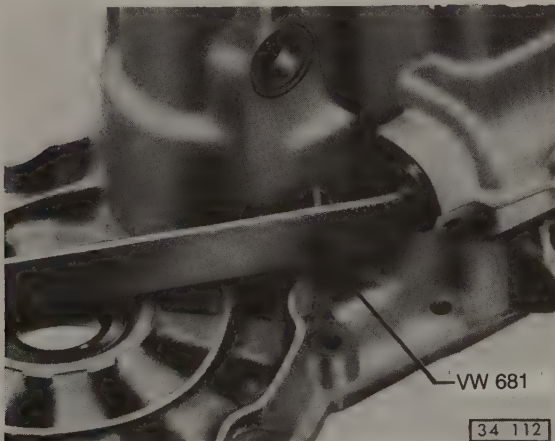

Fig. 6-8. Selector shaft oil seal being removed.
7. Pry out the old seal, as shown in Fig. 6-8, and install a new seal.